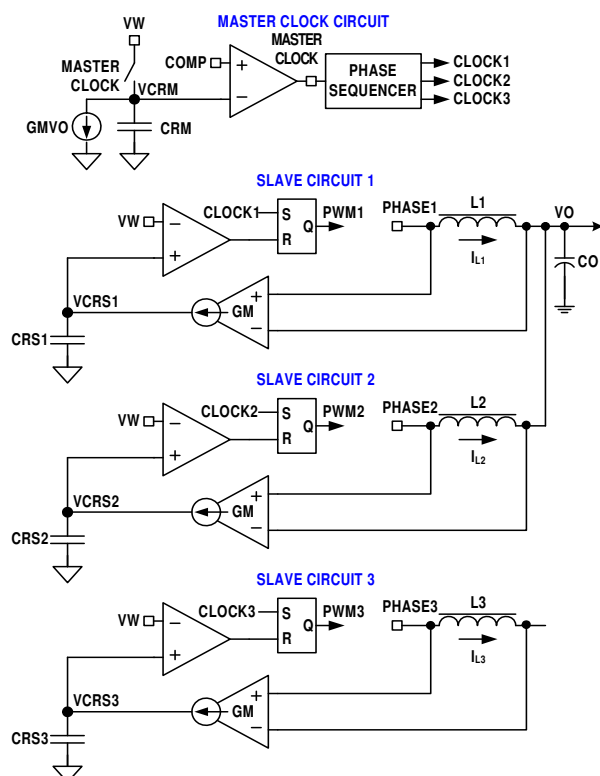
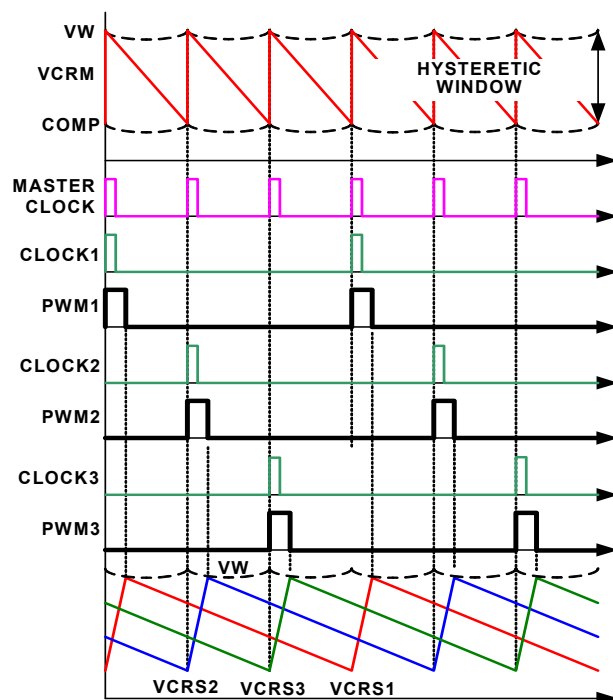

FIGURE 7. R3™ MODULATOR CIRCUIT
FIGURE 8. R3™ MODULATOR OPERATION PRINCIPLES IN STEADY STATE
The ISL62771 is a multiphase regulator implementing two voltage regulators, CORE VR and Northbridge (NB) VR, on one chip controlled by AMD's SVI2 protocol. The CORE VR can be programmed for 1- or 2-phase operation. The Northbridge VR only supports 1-phase operation. Both regulators use the Intersil patented R3™ (Robust Ripple Regulator) modulator. The R3™ modulator combines the best features of fixed frequency PWM and hysteretic PWM while eliminating many of their shortcomings. Figure 7 conceptually shows the multiphase R3™ modulator circuit and Figure 8 shows the operation principles.